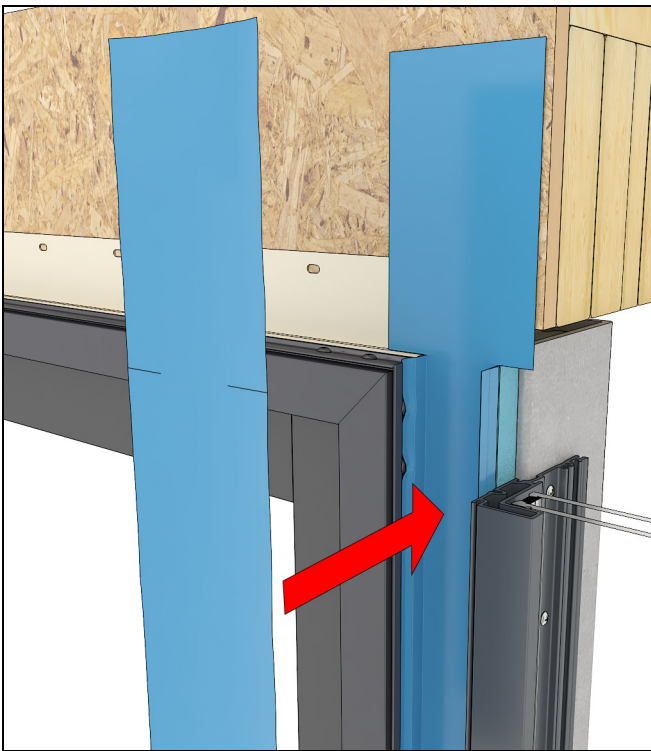
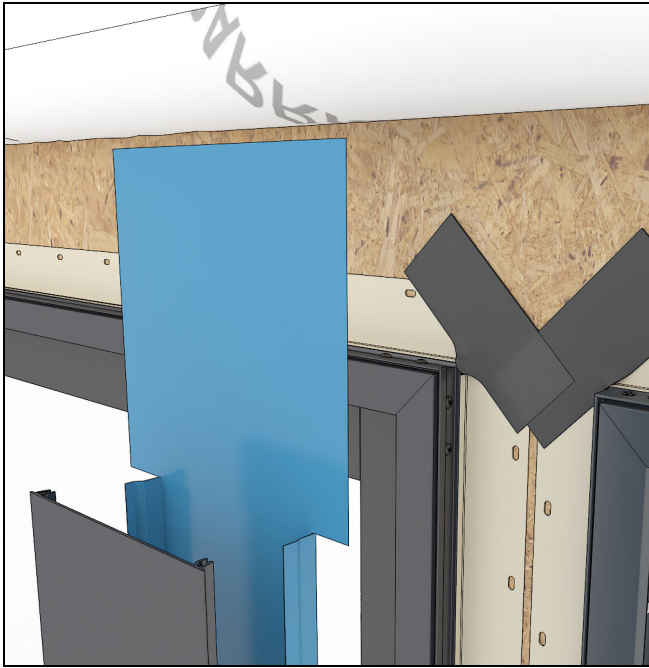

Figure 2 Flashing tube steel mulls
Figure 3 Flashing 4 1/2" stud pocket mulls
2. At the mull, apply strips of flashing tape over the foam block (tube steel) or sheathing (stud pocket) and onto the sides of the units by at least 1/4". Run the flashing up onto the sheathing at the head jamb by at least 6". Make a relief cut at the top of the frames. See Figure 2 for tube steel and Figure 3 for stud pockets.